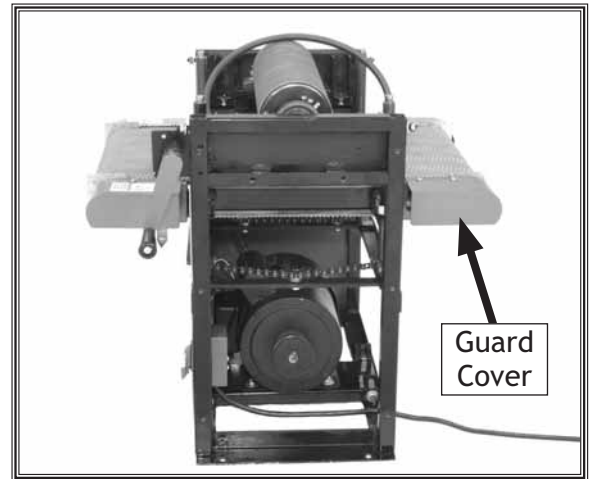

Figure 45. Drum sander disassembled to Step 8.
8. Loosen the hex bolts securing the motor bracket to the frame, raise the motor and remove the V-belt from the motor pulley. The drum sander should now look similar to **Figure 45**.